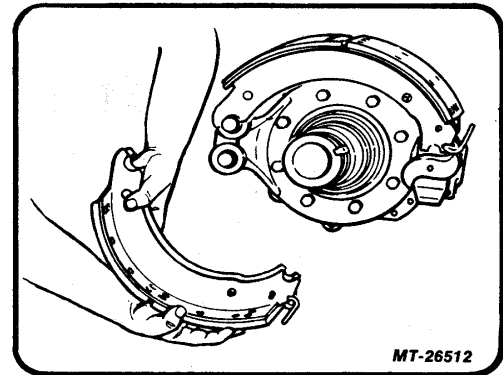

Fig. 17 Removing Lower Shoe
- Remove lower shoe (Fig. 17). Then remove upper shoe.